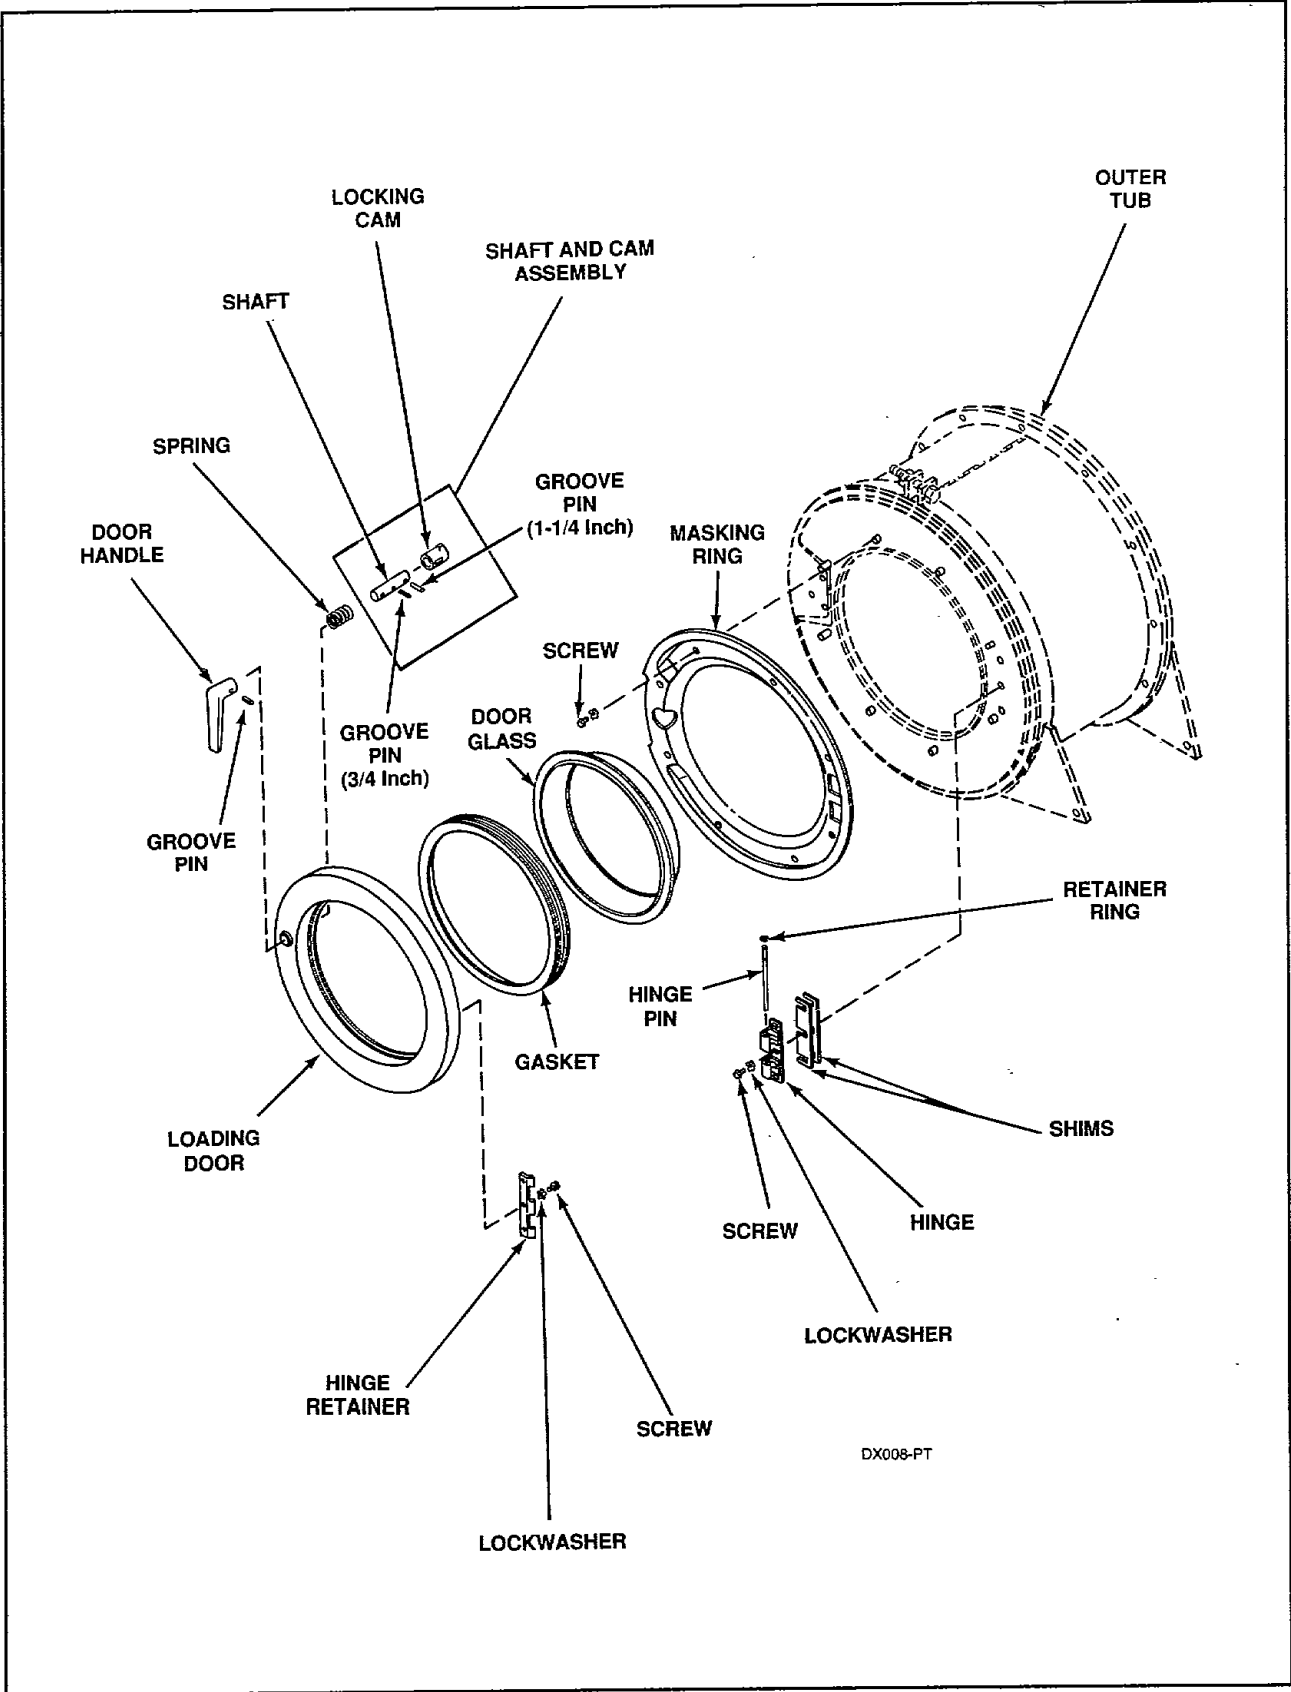

Figure 4
NOTE: Refer to *Figure 4* for loading door assembly sequence.
- b. While holding the door glass, peel the gasket away from the door glass all the way around inside of door and remove door glass, *Figure 4*.